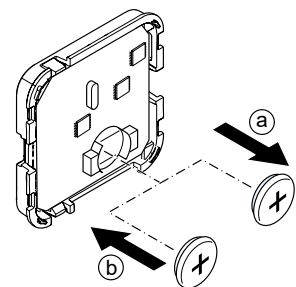

Figure 6 - replacing the battery
3. Replacing the battery (fig. 6)